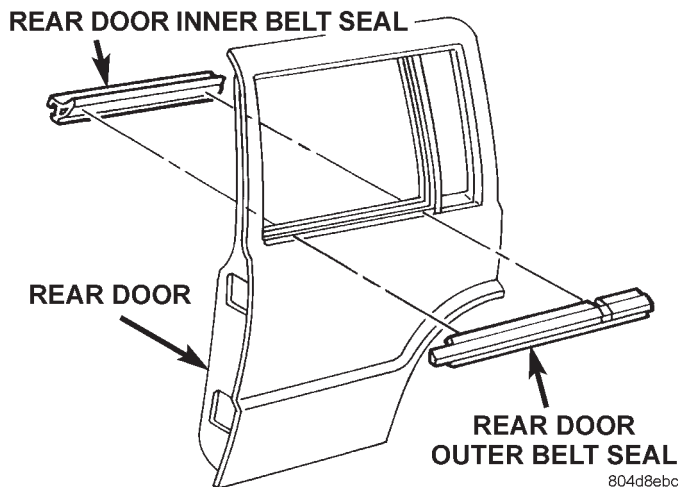

Fig. 34 Rear Door Inner Belt Seal
- (1) Remove door trim panel.
- (2) Using a trim stick, carefully pry rear inner edge of seal upward.
- (3) Grasp seal and pull upward to separate from door flange (Fig. 34).